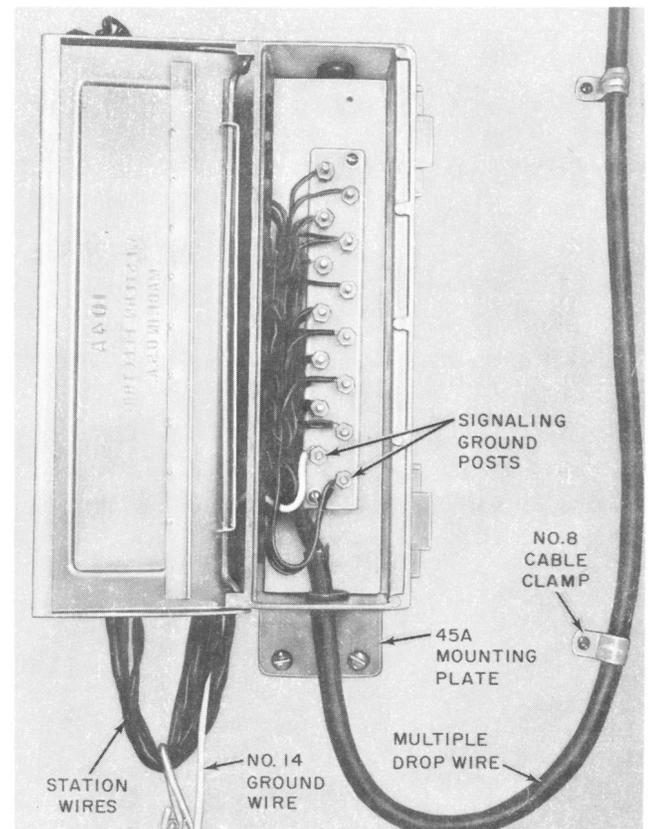

Fig. 1—Wiring of 104A Wire Terminal
2.01 The 104A wire terminal shown in Fig. 1 employs a mounting similar to a 10-pair, N-type distribution terminal, but is equipped with a terminal block having facilities for connecting 6-pair multiple drop wire. Two binding posts on the extreme right are strapped together internally and are used for station signaling grounds.